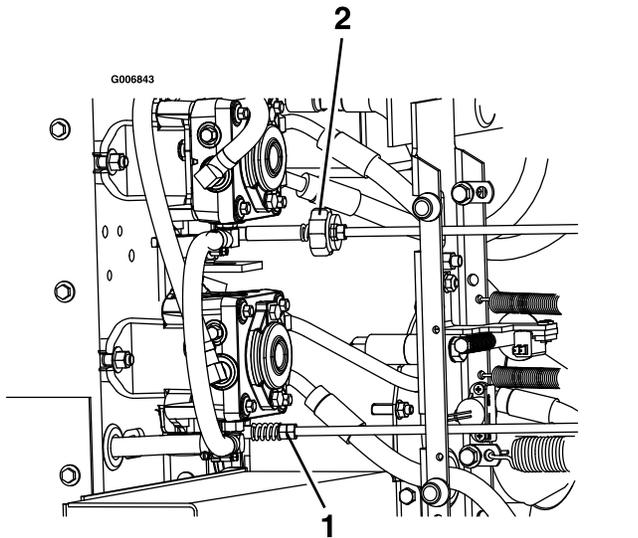

Figure 65
until the wheels stop or creep slightly in reverse (Figure 65).
11. Adjust the right pump linkage by using a wrench to turn the double nuts on the assembly (Figure 65).